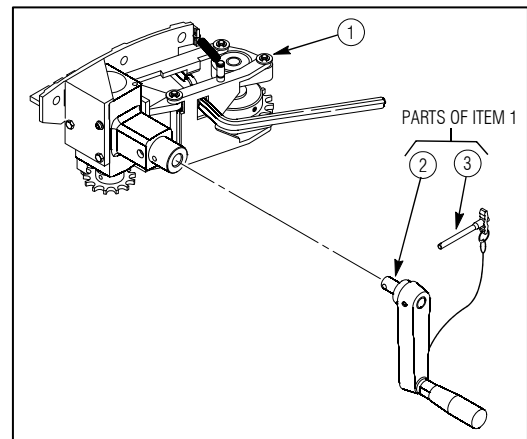

Figure 44
1. Remove quick release crank handle (2) from 6434946-01M1 traversing gear assembly (1) by pulling pin assembly (3). Refer to figure 44.